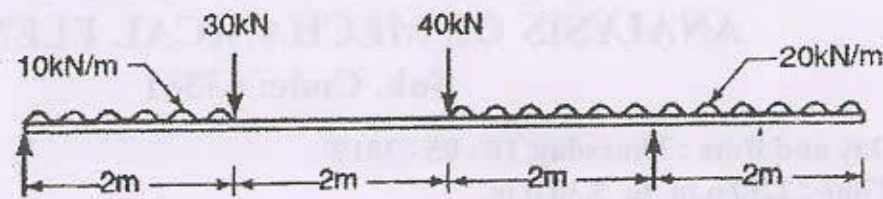

Fig. 3
-) Draw SFD and BMD for loading condition shown in fig.3. Locate point of contraflexure if any. [16]